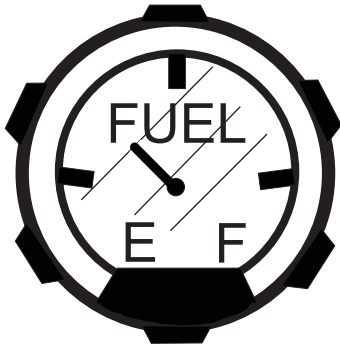

Figure 11. Fuel Gauge
1. Determine if engine fuel is low (Figure 11).